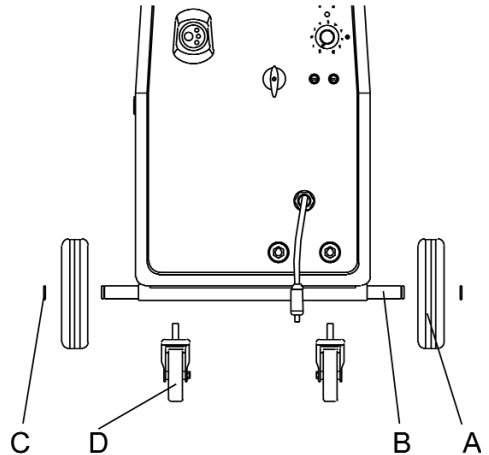

Figure 4. Wheel Installation
1. Gently lay the welder on its side and install the two front castor wheels (D) into the threaded holes in the front of unit.
3. Slide the Wheel Axle (B) through the square tube at the rear of unit.
4. Install the Rear Wheels (A) and Wheel Retaining Rings (C) as shown in Fig. 4.